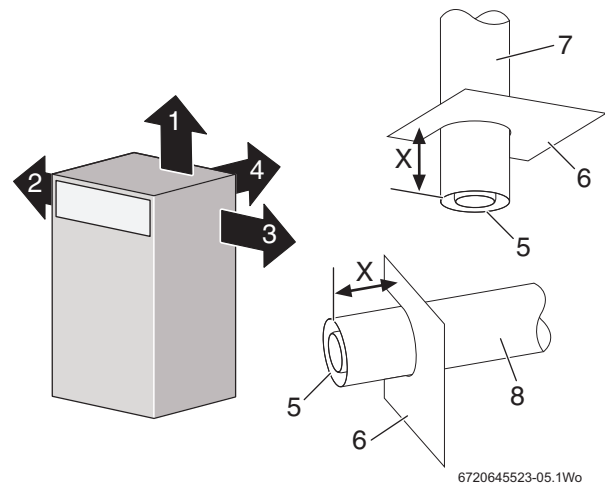

Fig. 8 Fluing options from the boiler
1. Add dimension “X” to the effective flue length (L) to allow the flue to fit to the outlet/elbow inside the boiler casing.
2. Refer to figure 8 and table 6 for dimension X for flue outlet options 1, 2, 3 or 4.
Table 6 Key to figure 8